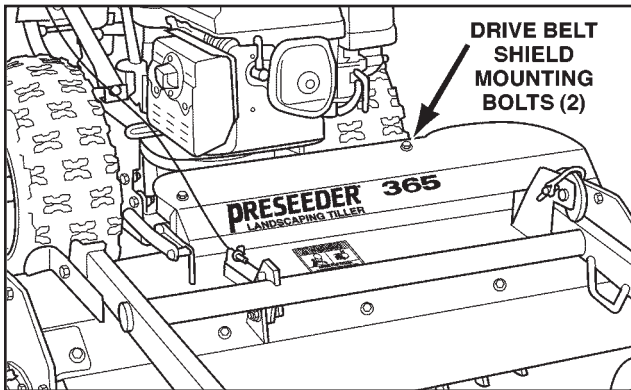

FIGURE 30 Main Drive Belt Shield
2. Remove Main Drive Belt Shield by removing 2(two) mounting bolts (See Figure 30 on Page 18).
2. Remove Main Drive Belt Shield (See Figure 30).